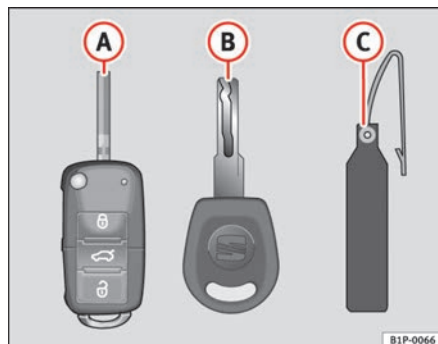

Fig. 42 Set of keys
- a remote control key ⇒ fig. 42 **A**,
Duplicates can only be issued with the key number on the key tab ⇒ fig. 42 **B**. Therefore: